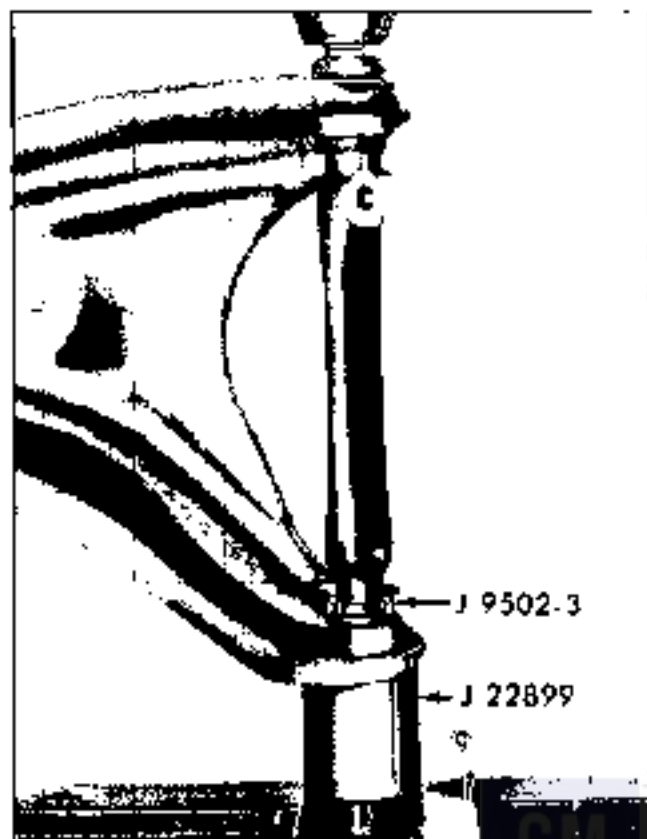

Fig. 3-14 Removing Upper Control Bushing (Pontiac and Tempest)
1. Invert control arm as shown in Fig. 3-14, and press bushing out.